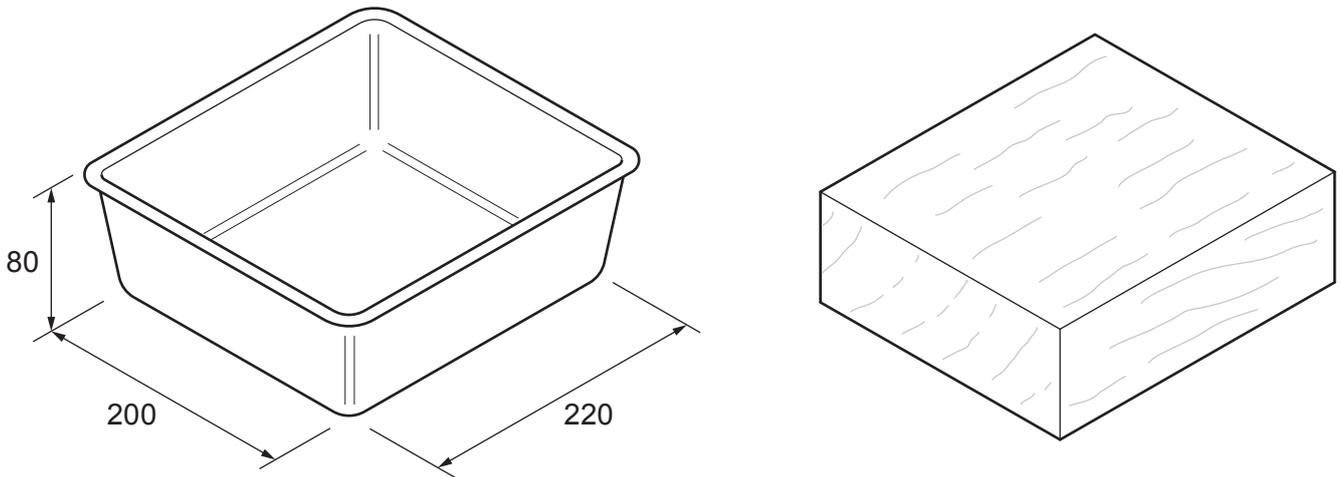

Fig. 12.4
- (e) Fig. 12.4 shows one of the trays and a block of wood that will be shaped into a former that will be used to vacuum form the trays.